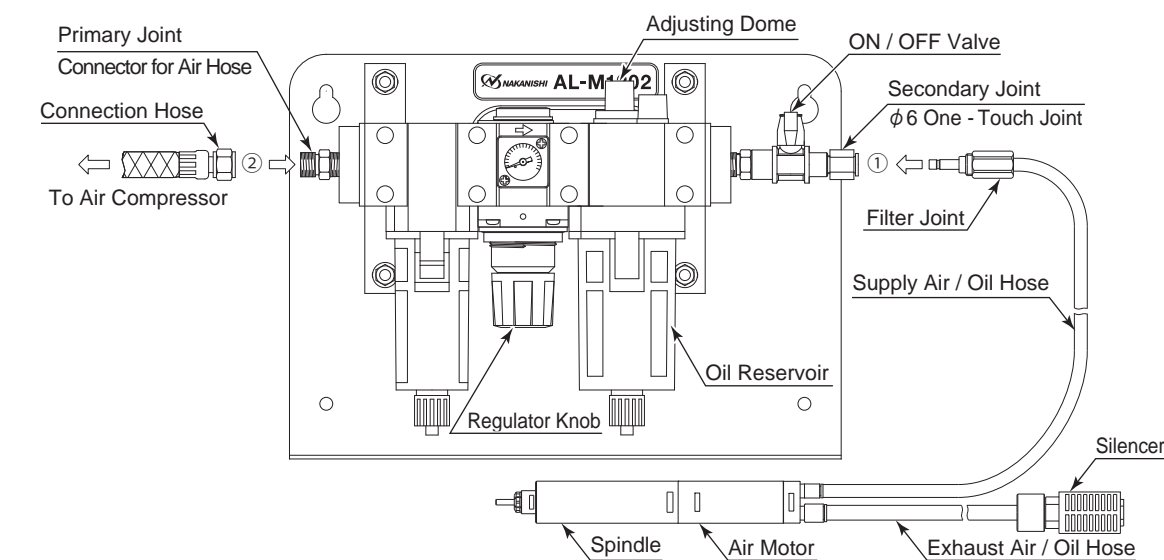

Fig. 4 Connection of Air Line Kit "AL - M1202 (Sold Separately) "
- Connect the Filter Joint of the supply air / oil hose to the Secondary Joint (  $\phi 6$  One - Touch Joint) of the Air Line Kit (Fig. 4 ①).
- Connect the connection hose (Air Line Kit's Standard Accessories) to the Primary Joint of the Air Line Kit and Compressor (Fig. 4 ②).